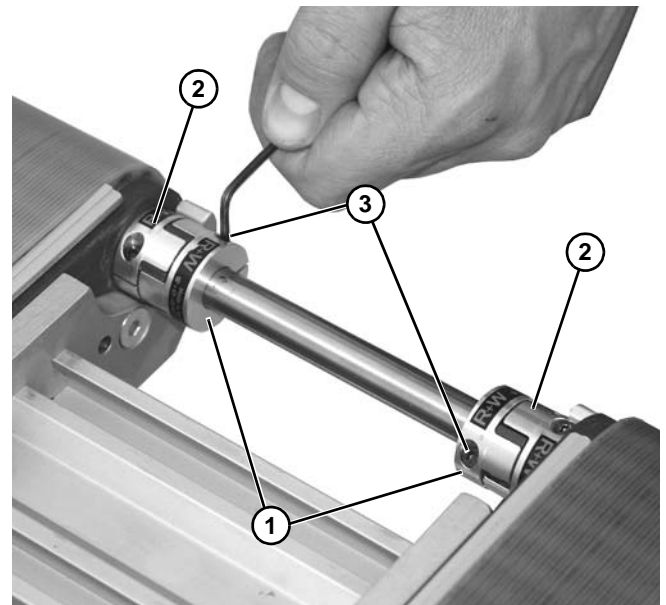

Figure 29
10. Slide both ends of inner portion of 3-jaw coupling (**Figure 29, item 1**) onto mating surface of outer 3-jaw coupling (**Figure 29, item 2**) and secure with clamp screws (**Figure 29, item 3**). Tighten screws to 17 in-lb (2 Nm).